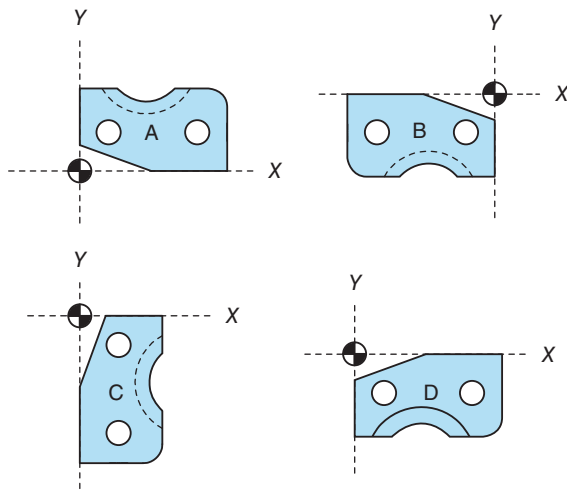

Figure 17-59 Setup options in various quadrants.
4. Figure 17-59 depicts four possible positions we could use to set up a vise to hold the part for milling of the
6. Of the four possible setup orientations of the PLC 17-A (Fig. 17-59), which could be used to machine the part, A, B, C, or D? Which would be the most efficient A, B, C, or D? Explain. (LO 17-2)
7. With the part in position D (Fig. 17-59), what are the absolute coordinates for the center of the two 0.812-in. holes? (LO 17-2)
9. What are the absolute coordinates of point K with the part in the D orientation (Fig. 17-59)? (LO 17-2)